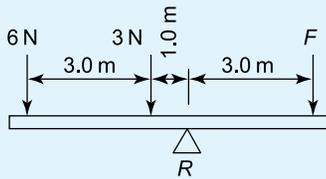

Figure 5.35
6. Which of the following statements is false for the beam shown in Figure 5.35 if the beam is in equilibrium?